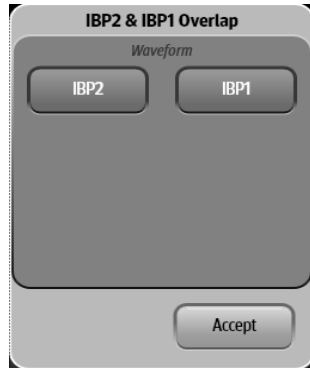

FIGURE 3-5 Example Overlapping Waveform Dialog
1. Select the overlapping waveforms from the Main Screen to open the Overlapping Waveform dialog (as shown in FIGURE 3-5).